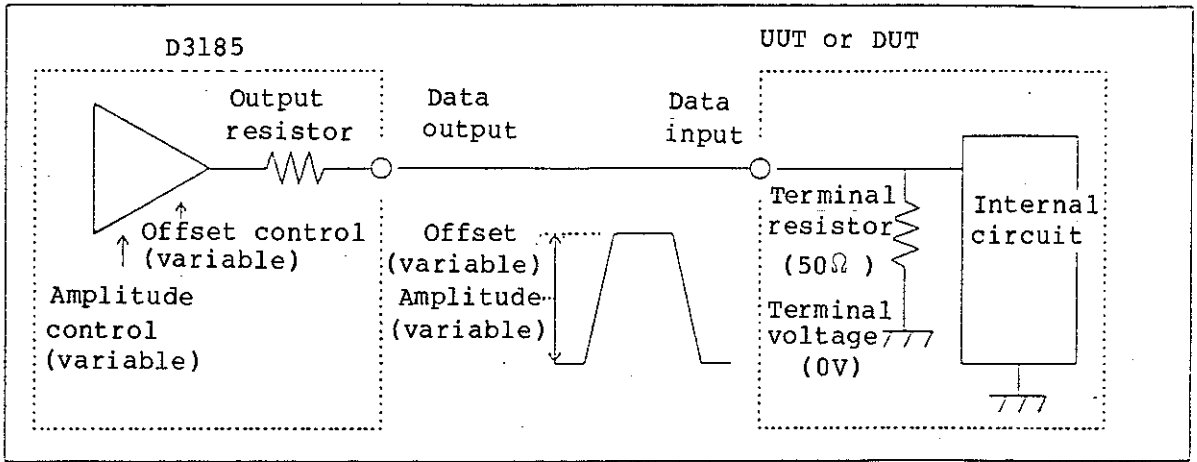

Fig. 4-1 With Data Output Used and 0V Termination
- (1) If the UUT or DUT data input terminator voltage is 0V (See Fig. 4-1.)